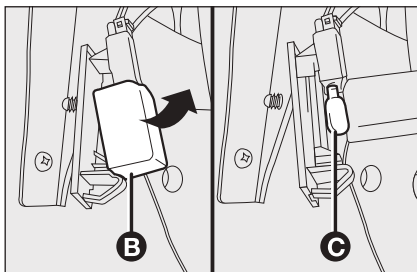

fig. 36
- ☐ open the bulb cover **B**-fig. 36 and replace the snap-fitted bulb **C**;